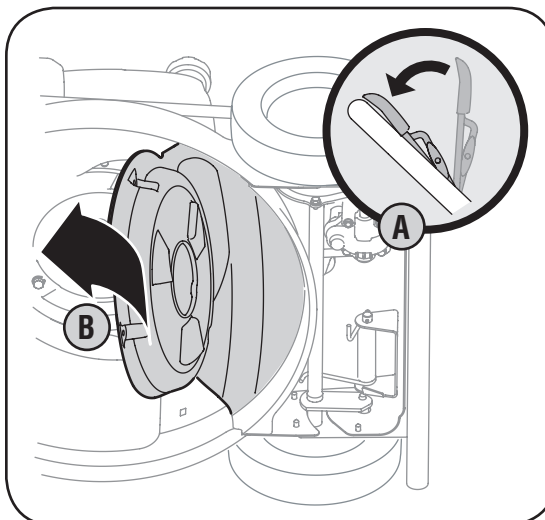

Figure 5-10: Engage the blade control to tighten the belt (A) and place baffle back onto deck (B).
19. Squeeze the blade control against the upper handle to tighten the belt. Return baffle back to its original position and release the blade control. See Figure 5-10.